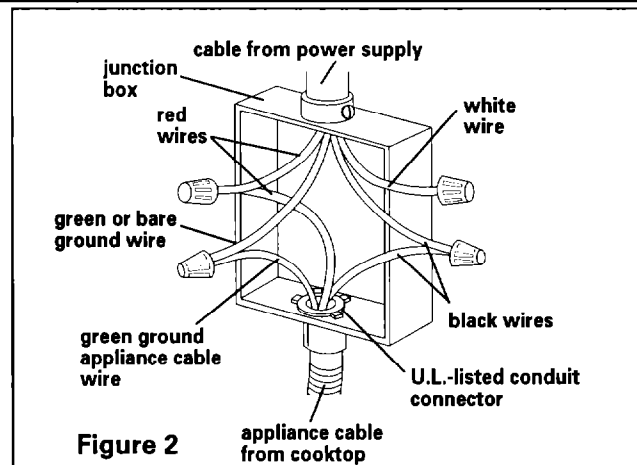

Figure 2
7. Connect the green ground appliance cable wire to the ground wire in junction box or other ground connector with twist-on connector. See Figure 2.